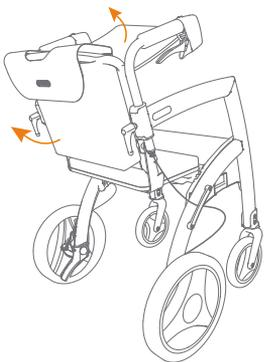

Figura 50: Cinghie di regolazione trasparenti.
- b. Pull up the bag of the wheelchair package and the backrest cover from the bottom (**Figura 50**). The adjustment straps are now clearly visible (**Figura 51**).